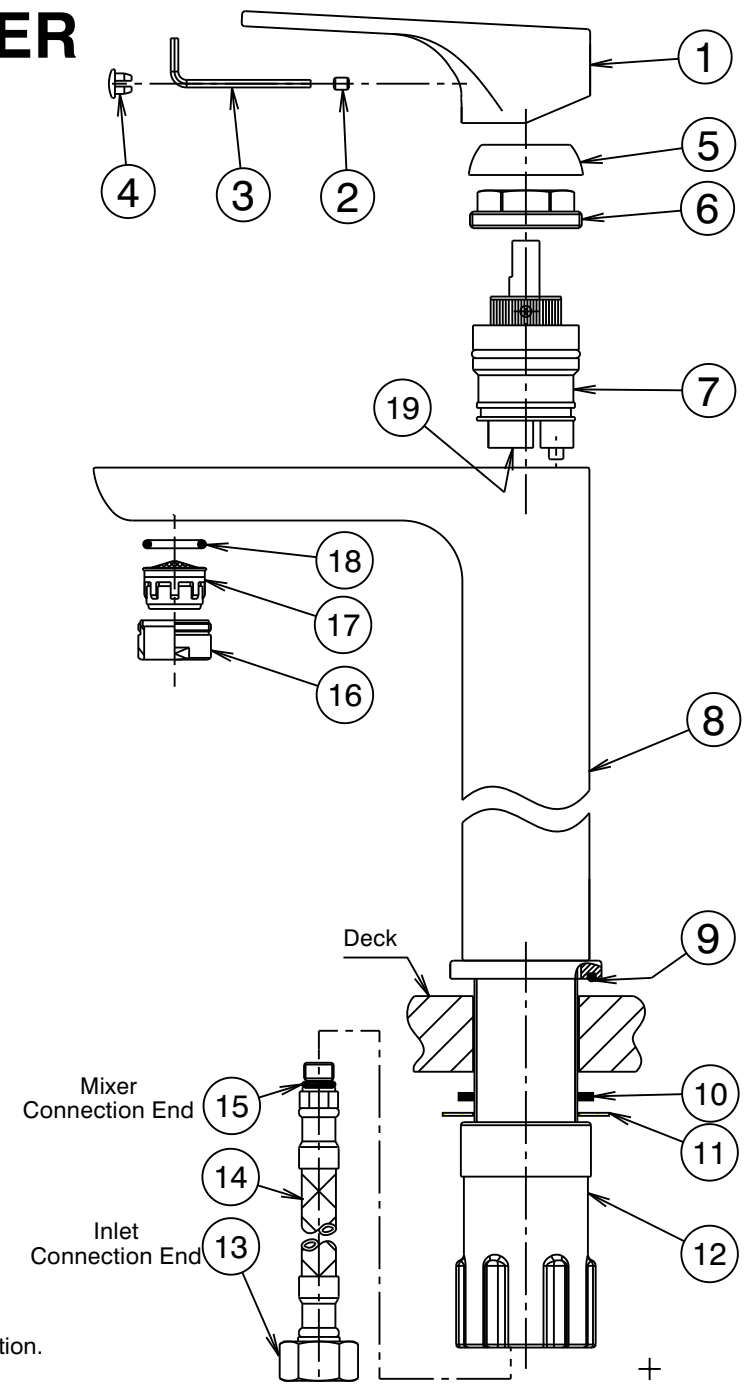

Fig. 1
- 1) From fixing pack fit seal (9) into groove in base of mixer (8).
- 2) *Flexible Tail Mixer Connections:* Apply suitable lubricant to 'O' rings (15). Fit flexible tail (14) (with red indication) into inlet hole marked with a Red Dot in underside of mixer body (8). Hand tighten the tail, ensuring the 'O' ring (15) has fully entered the sealing bore to provide a watertight joint. Fit other flexible tail (with blue indication) into remaining hole in a similar manner.
- 3) Insert the inlet connection end (13) of each flexible tail (14) through the hole in the deck. Insert threaded tail of mixer (8) into deck hole, fit rubber washer (10), followed by metal washer (11), over the threaded tail of the mixer (8) as shown (Fig. 1). Screw on nut (12) and tighten firmly by hand to secure the mixer to the deck.
- 4) *Flexible Tail Inlet Connections:* Connect the flexible tails (14) to the hot and cold isolating stop taps, hand tighten the connecting nut (13) until rubber cone contacts the sealing face of the connection end, then tighten a further one turn to provide a watertight joint. **Important:** Flexible tails must not be kinked, twisted or in tension when installed. (Minimum Bend Radius:- 50mm) Do not install flexible tails where subject to ultra violet light.